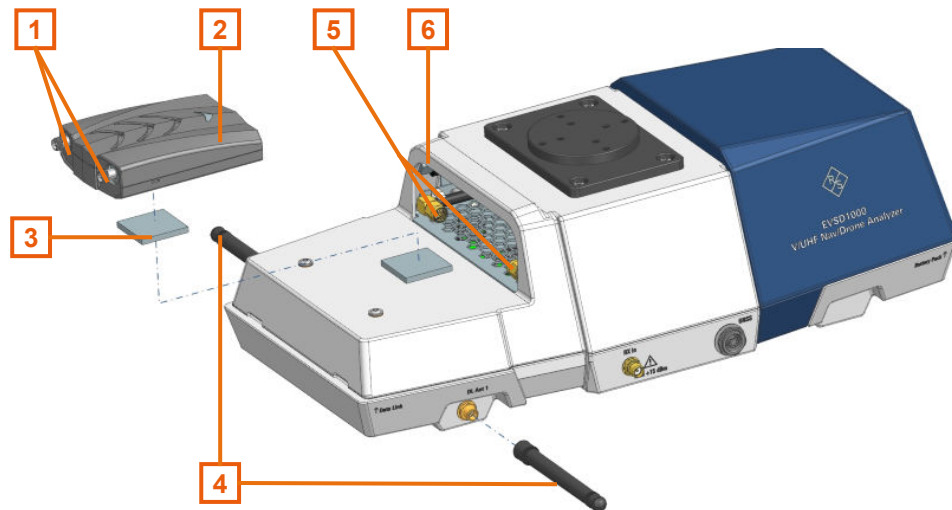

Figure 1-3: Connecting the R&S EVSD1-Z5 Data-link-module (Wi-Fi)
2. A hook-and-loop fastener is taped to the R&S EVSD1000, in front of the data link slot. Tape the upper part of the fastener to the data-link-module (Wi-Fi) as shown in Figure 1-3.